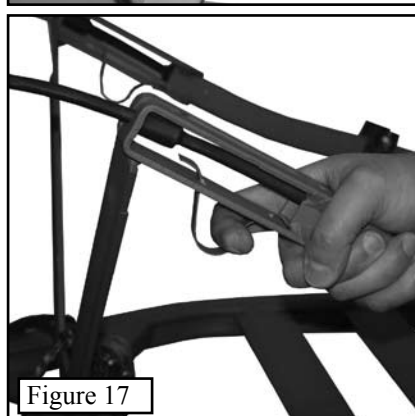

Figure 17
Step 1. Attach the base platform to the tree first. To do this, pull down and hold the QuickDraw cable spring as shown in *Figure 17*. This will release the locking tab from the cable, allowing you to remove it from the cable bracket.